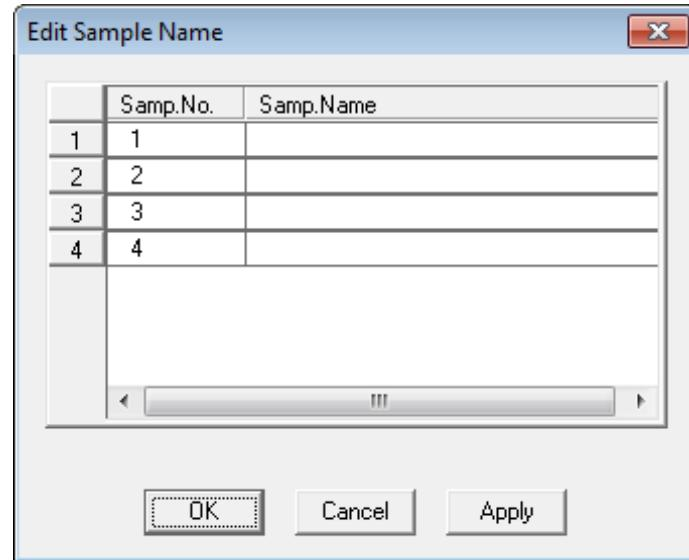

Fig. 4-57
- (b) The Edit Sample Name window appears as shown in Fig. 4-57.